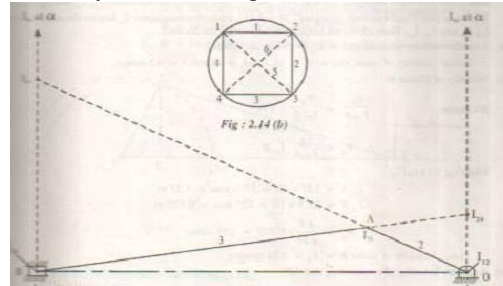

Fig. 2.11
2. In a slider crank mechanism, the crank OA=300 mm and connecting rod AB=1200 mm. the crank OA is turned 30 degree from inner dead centre locate all the instantaneous centers. If the crank rotates at 15 radian per second. Find a) velocity of slider B and b) angular velocity of connecting rod AB as shown in fig 2.11